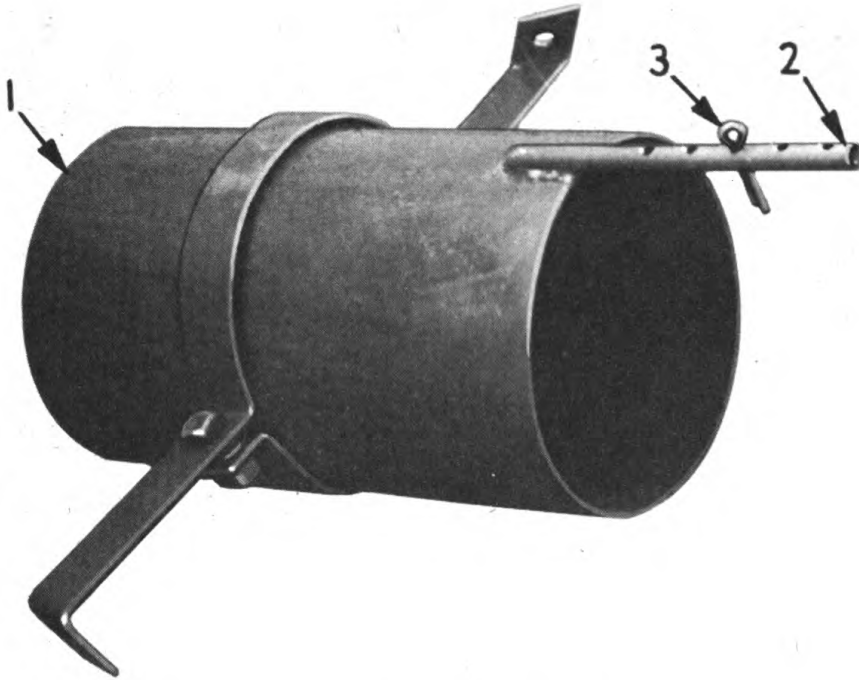

FIG. 20 - BURNER TUBE.
The purpose of the tube (1) Fig. 20, is to confine the flame to a relatively small cross sectional area. By keeping the flame from spreading out, as it enters the drum, better penetration of the flame is obtained. The flame, in normal operation, should penetrate approximately one half the length of the drum.